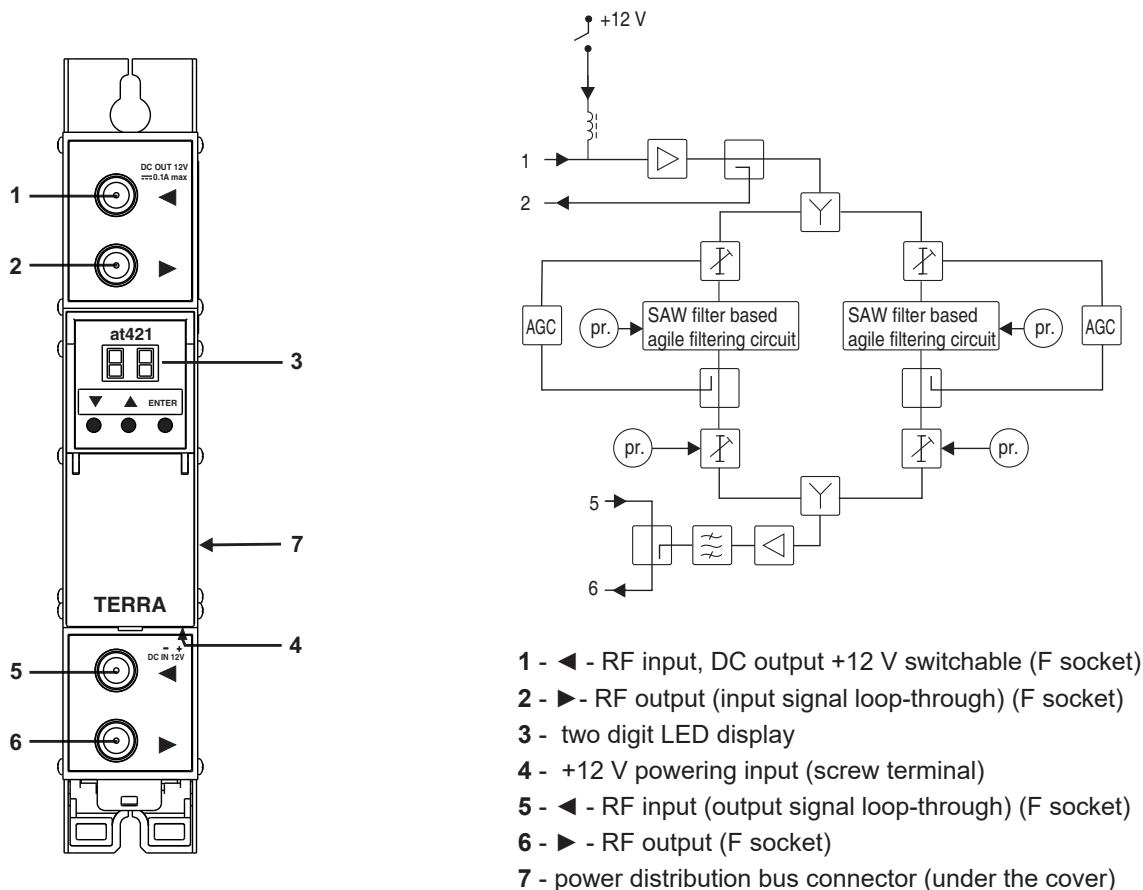
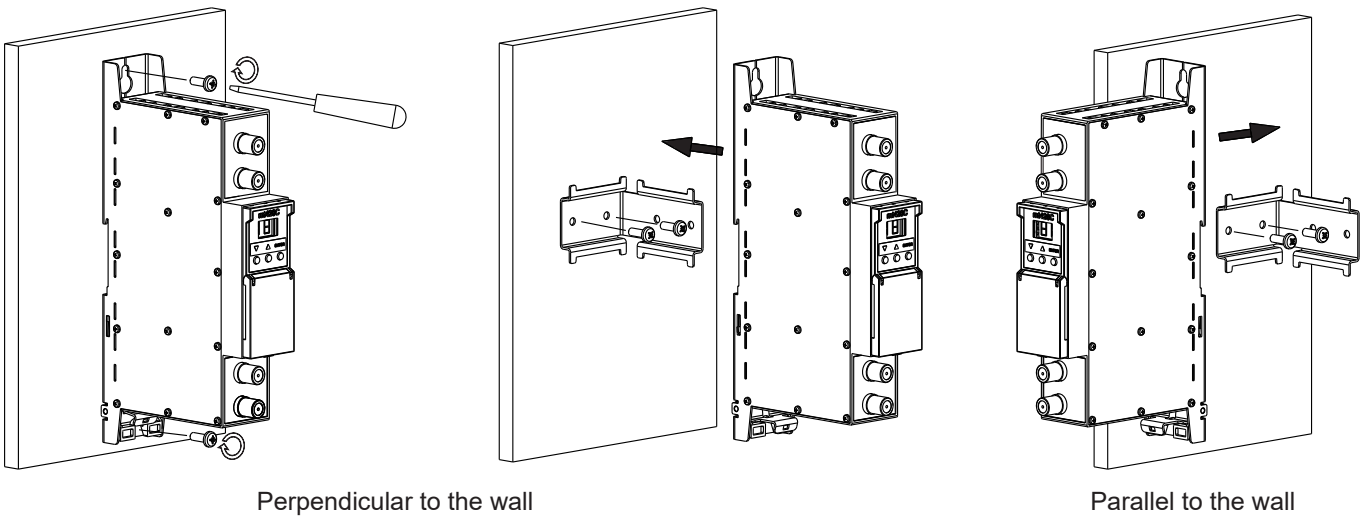
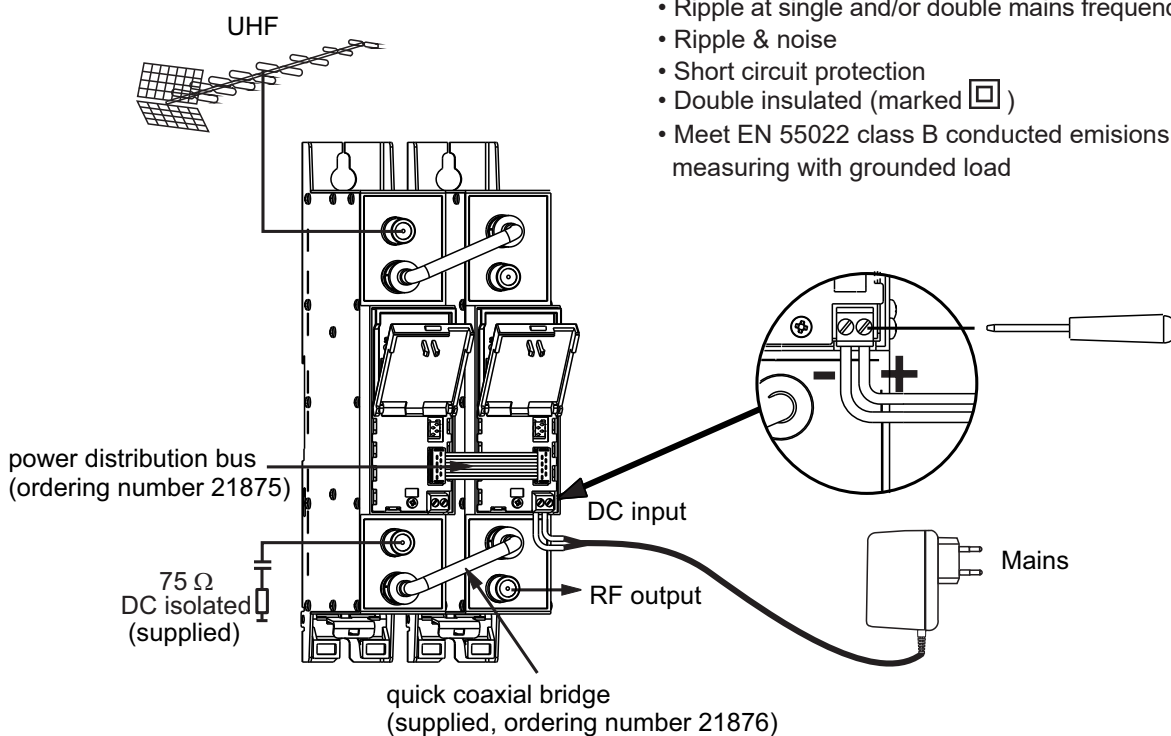

Figure 1. External view and structure diagram
Figure 2. Mounting of amplifier
Figure 3. Powering of amplifier
There are incorporated two fully independent TV amplifiers in one unit and consist of: AGC (Automatic Gain Control) circuit, SAW (Surface Acoustic Wave) based ultra high selective filter, IF (Intermediate Frequency) offset control circuit, adjustable output attenuator and controllable +12 V DC feeding circuit for preamplifier (Figure 1).
The amplifier can be used as stand-alone unit as well as modular system powered from single power supply (Figure 3).
DC power should be connected, after at421 mechanically placed into position (Figure 2, 4 and connected Figure 3).
If RF IN connector (pos. 5, Figure 1) is not used, connect the 75 Ω isolated load supplied (Figure 3).